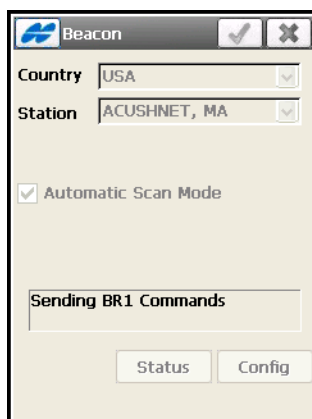

Figure 8-29. BR-1 Configuration
- **Config** – sends the appropriate configuration commands for BR-1 radio channels (Figure 8-29):